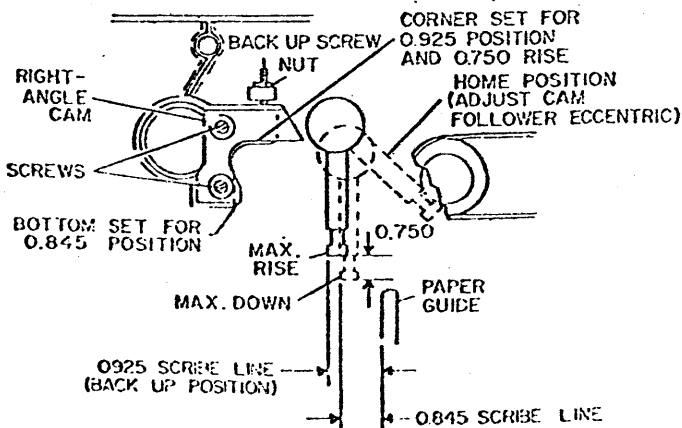

Fig. 3-63. Right Angle Cam
5. Refer to Fig. 3-63. Loosen locking nut and back off the right-angle back-up screw.